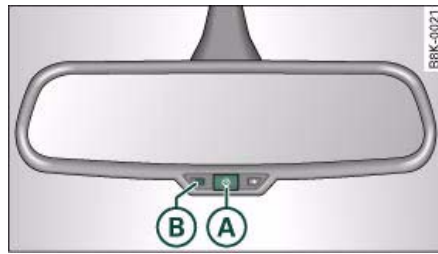

Fig. 71 Anti-dazzle interior mirror: On/off button with indicator lamp
- Press button (A) ⇒ fig. 71 - the indicator lamp (B) will go out.